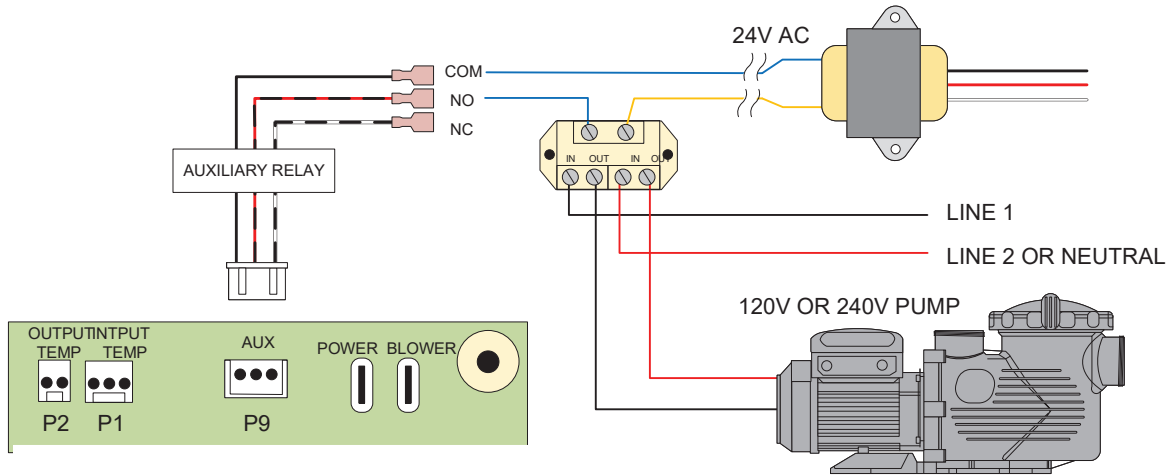

Figure 147. High Power Applications with Field-Supplied Relay
- Load on P9 must not exceed 3 Amps. If the load is larger than 3 Amps, use P9 auxiliary output to drive a field-installed contactor. See Figure 147.